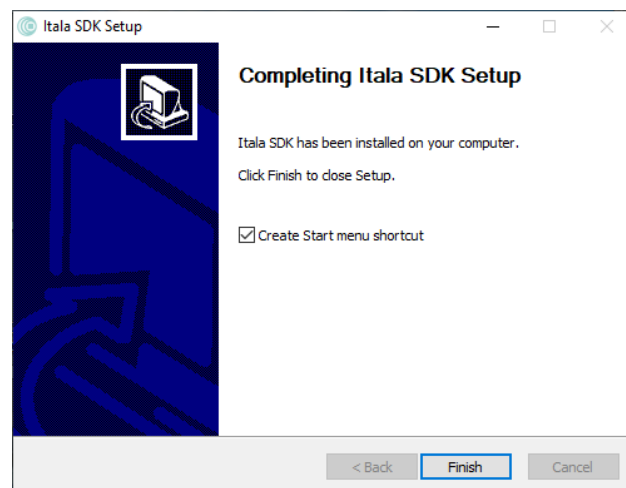

Figure 12: Itala SDK installation finished successfully.
7. The Itala SDK installation will be performed automatically. The progress bar can be monitored to check the installation status. At the end of the installation, a confirmation window will be displayed (Fig.12).